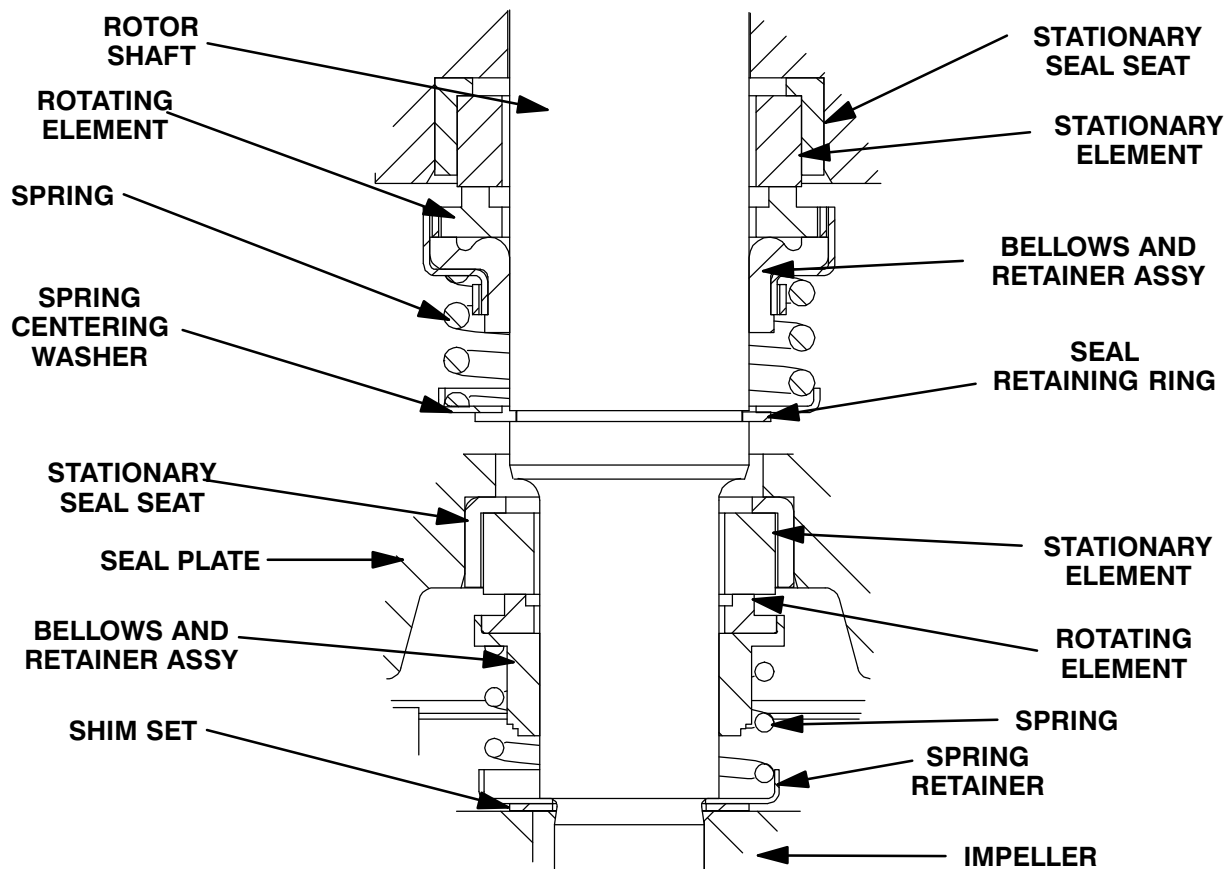

Figure E-3. Upper And Lower Seal Assemblies
Install the shaft seals as illustrated in Figure E-3.
Slide the seal spring over the shaft and bellows retainer and install the spring centering washer. Install the seal retaining ring (10). See Figure E-3 for the proper order of seal assembly.
Install the seal spring over the bellows retainer and install the spring retainer (18). See Figure E-3 for proper order of seal assembly.